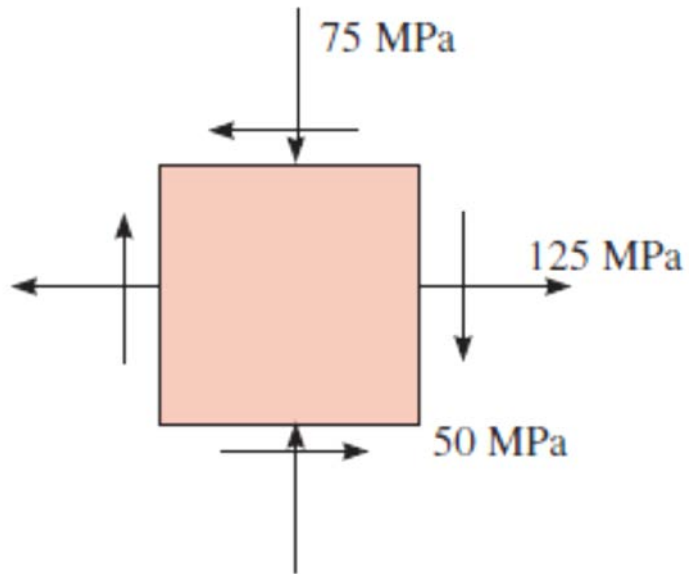

Figure 5
5. As shown in Figure 5, determine the equivalent state of stress on an element at the same point which represents (a) the principal stress and (b) the maximum in-plane shear stress and the associated average normal stress. Also, for each case, determine the corresponding orientation of the element with respect to the element shown. Sketch the results on each element.